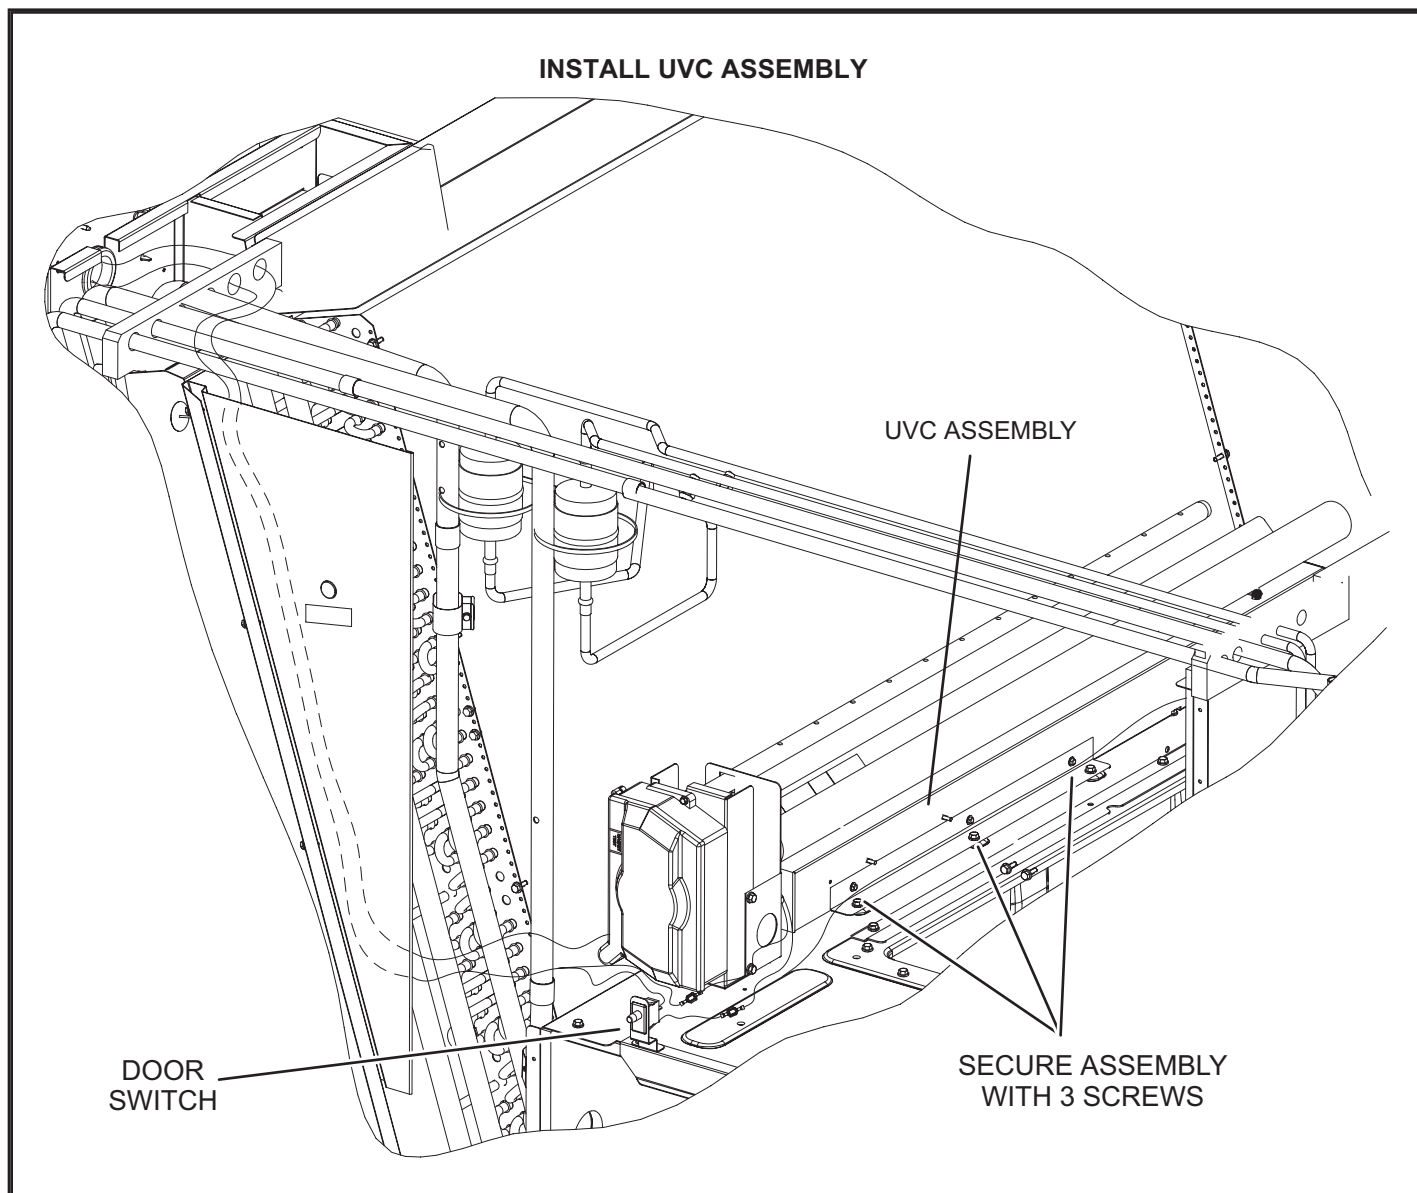

FIGURE 2
- 3 - Carefully place the UVC assembly on the blower deck. Line up the mounting holes on the UVC assembly with the mounting holes on the blower deck. See FIGURE 2. Use the #10 screws provided to secure the UVC assembly in place.
Install bracket and switch on front of blower deck as shown in FIGURE 2. Wire as shown in FIGURE 3.